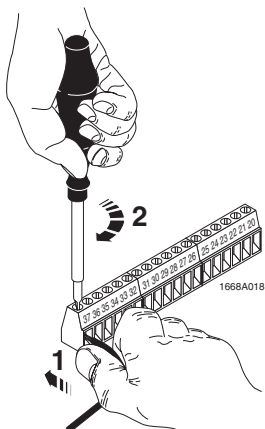

Figure 9. Terminating Conductors
4. Insert a prestripped wire into the appropriate position of the PCB terminal block. Then using a blade-type screwdriver (2 mm wide), tighten the PCB terminal block screw to a maximum of 0.4 Nm (see Figure 9). Continue terminating all remaining wires in this same manner until all wires have been terminated.